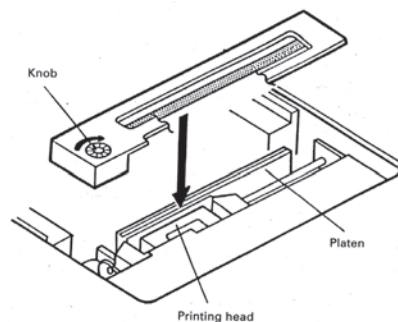

Figure 1. Loading the Printer Ribbon
2. Press down on the ribbon cassette while inserting the ribbon between the printing head and platen (see Figure 1). The ribbon cassette will click into place.
3. Wind up the ribbon slack by turning the knob on the left side of the cassette in the direction of the arrow that appears above the knob (see Figure 1).